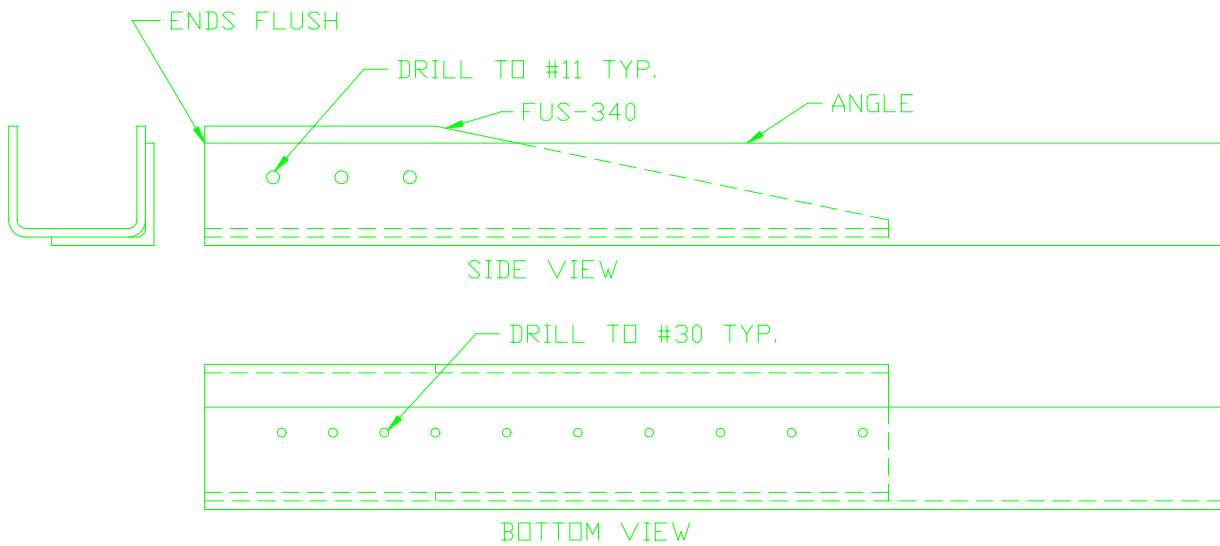

FIGURE 2
- 3) Nest one of the FUS-340 brackets into one of the angles cut from RAWST-7. Back drill the bottom holes to #30 and the side holes to #11. Figure 2.